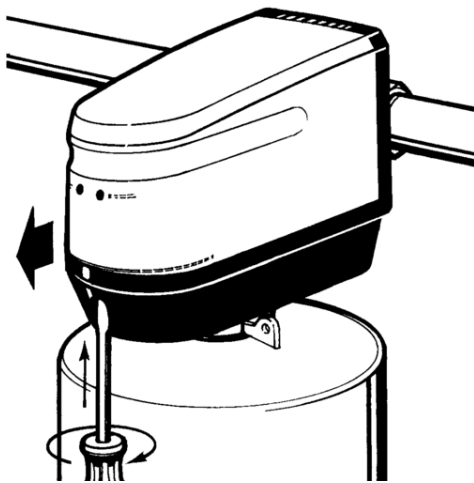

Fig. 15: Cover removal
2. Remove cover (see Figure 15).